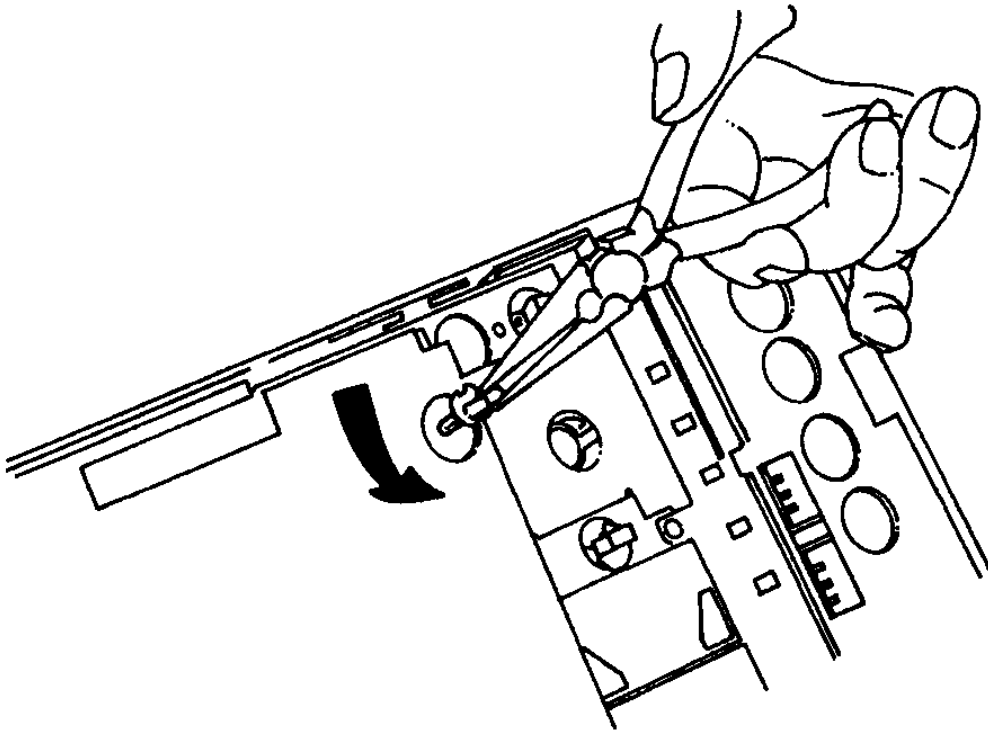

Figure 18 Twist Panel Lamp Bulbs to Remove
6. The panel lamp bulbs are the push-in type and are mounted in a twist lock receptacle. They are serviceable from the rear of the instrument cluster by twisting to remove (Figure 18).